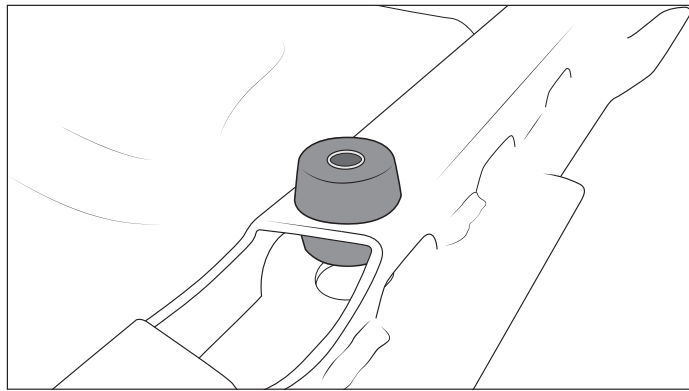

Figure 18
- A. Place bushings onto rear skid cross-member, 1 on top of horizontal surface and 1 inside/underneath. Install 40mm sleeve through bushings (fig. 18).